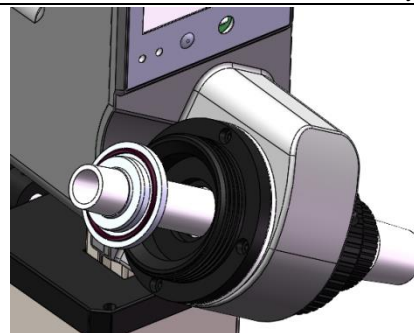
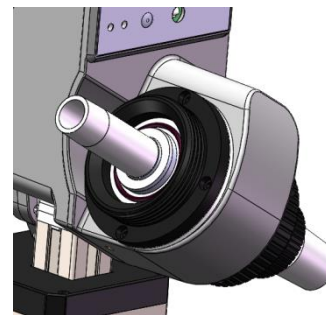

Fig. 14
Fig. 15
- Mount the seal ring (Fig. 14 and Fig. 15).